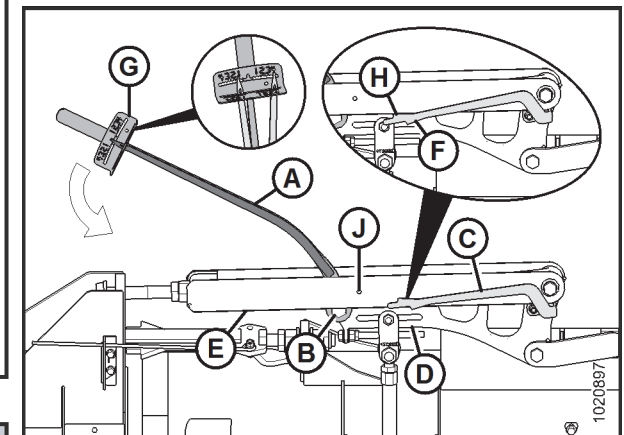

Figure 9: Wing Balance Linkage, Wings Set too Heavy – Left Side Shown, Right Opposite
- Move the wing downward with torque wrench (A) until the pointer's upper alignment tab (H) lines up with the lower edge of the top-link (E). Refer to Figure 9. Observe the indicator reading (G) on the torque wrench and record it.